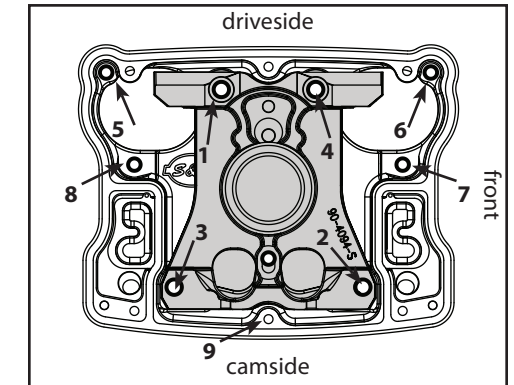

Figure 1
13. Place rocker arm support assembly with rockers in rocker housing. Align pushrod ends with sockets in rockers. Install and tighten four support screws to 15-18 ft-lbs. according to sequence shown in **Figures 1 or 2.** Refer to line drawing on page 3 for correct placement of screws.
14. Install the remaining rocker box screws and tighten according to specifications in **Figures 1 or 2.** Note that screw diameter and torque requirements are different for 1984-99 and 1999-later engines.